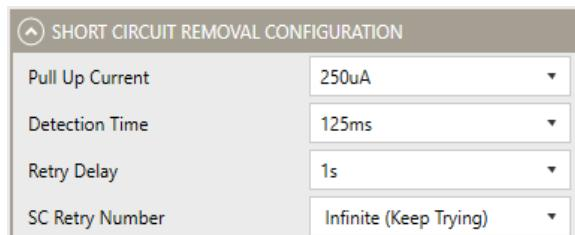

Figure 20: Short-Circuit Removal Configuration
12. Figure 20 shows the Short-Circuit Removal Configuration settings in the GUI.